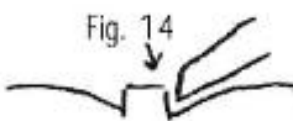

Fig. 14
10. Push vein in and up from the sides with butchers and planishers, straightening and narrowing it. (Fig. 14, 15)